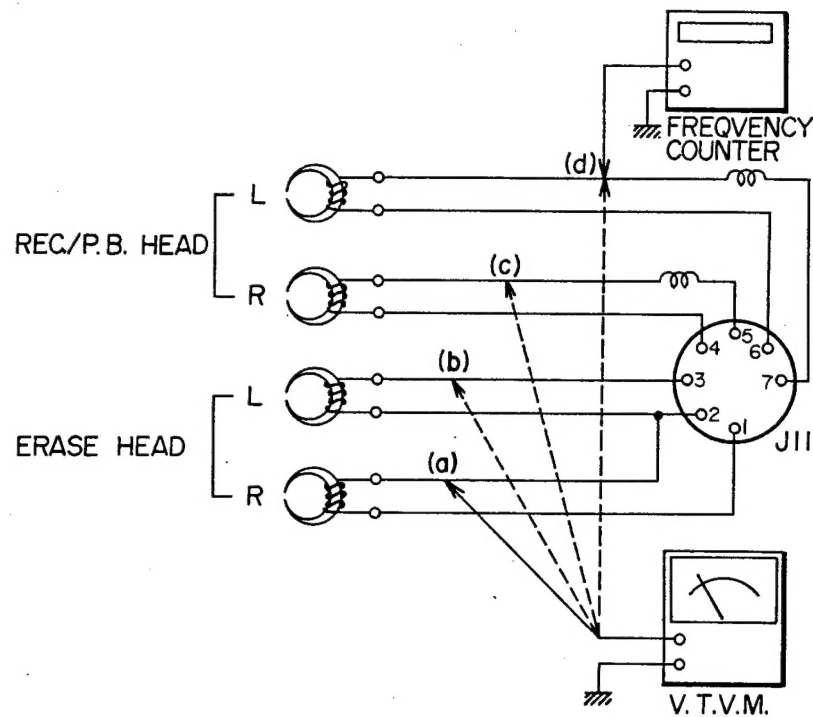

Fig. 12
- Connect a frequency counter to point (d) in Fig. 12 of the recording head and read the frequency indication.
2. RECORDING BIAS VOLTAGE (See Fig. 12)
3. ERASE BIAS VOLTAGE (See Fig. 12)